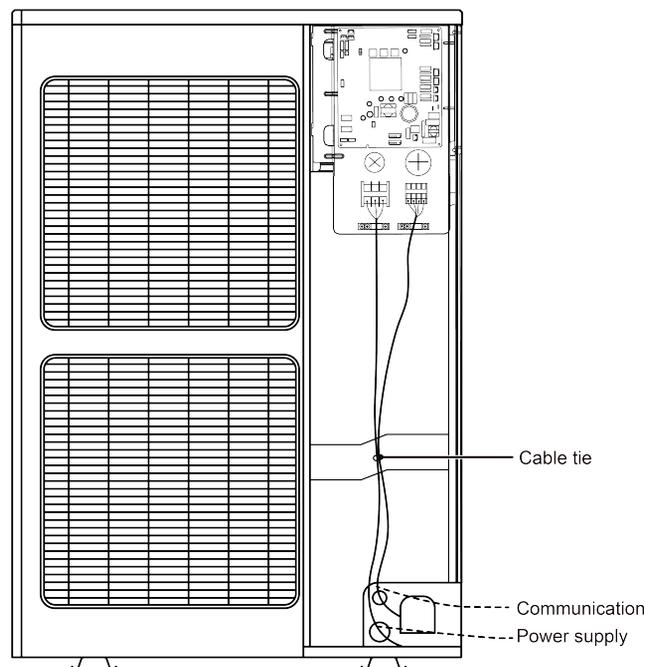

Fig. 4.6.4 Engineering Wiring View
- (1) Please refer Fig. 4.6.4 for engineering wiring. If there is the hole for cable tie in wiring route, please fix the wire with cable tie. Connect the power cord and communication cable to the corresponding terminal board and grounding screw according to the wiring diagram.
- (2) Please be noted that engineering wiring cannot touch the pipe and appliance.
- (3) This figure is only applicable for engineering wiring reference of power supply and communication cable. If there are differences between the figure structure and actual unit, please refer to the actual unit.
- (4) For engineering wiring, please refer to the wiring diagram provided with the unit.